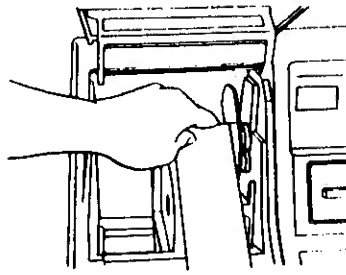

Fig. 6
- 3) Reinstall the journal receiving shaft in the register (see Fig. 6).